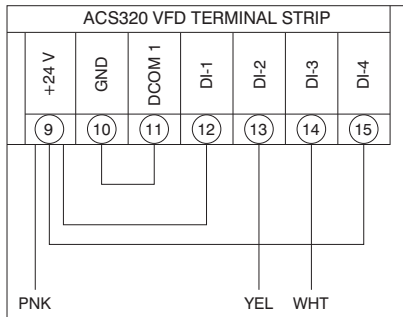

Fig. 24 — ACS320 VFD Wiring
- For ACS320 VFDs the voltage is sourced from the VFD at its terminal 9 (+24 V). SAV speed inputs are received at terminals 13 (DI-2) for low speed (40 Hz) motor operation and 14 (DI-3) for high speed (60 Hz) motor operation. See Table 12 and Fig. 24 (on page 17).